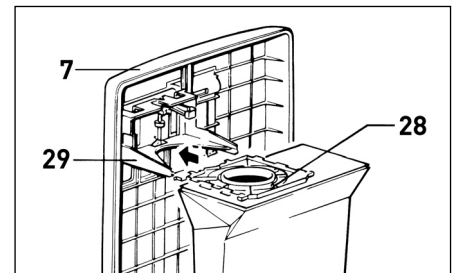

Figure 10
Changing the Filter Bag - Figure 10
2. Bag not inserted properly	2. Reinsert bag with cover release flap (5) up, until firmly latched in bag holder (see pg. 10 figure 10).